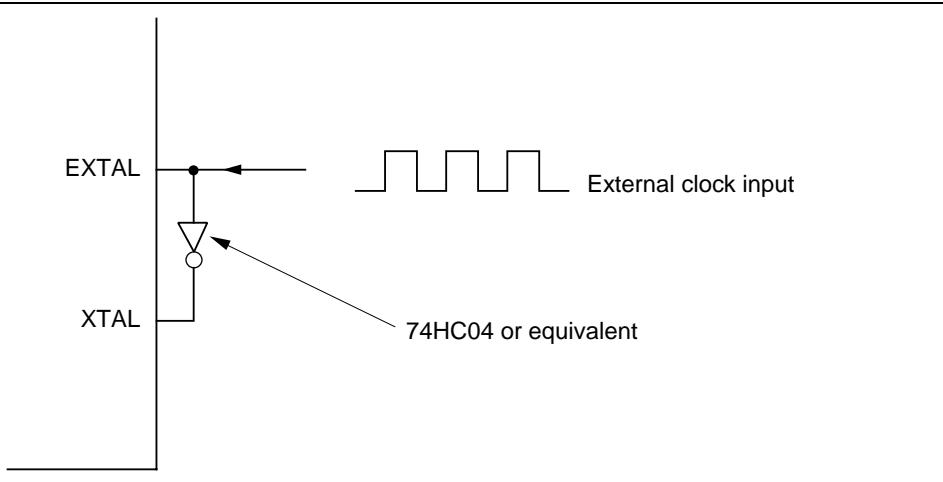

**Figure 9-4 Example of Incorrect Board Design**
**(3) Notes on Board Design:** When a crystal resonator is connected, the following points should be noted:
- Other signal lines should be routed away from the oscillator circuit to prevent induction from interfering with correct oscillation. See figure 9-4.